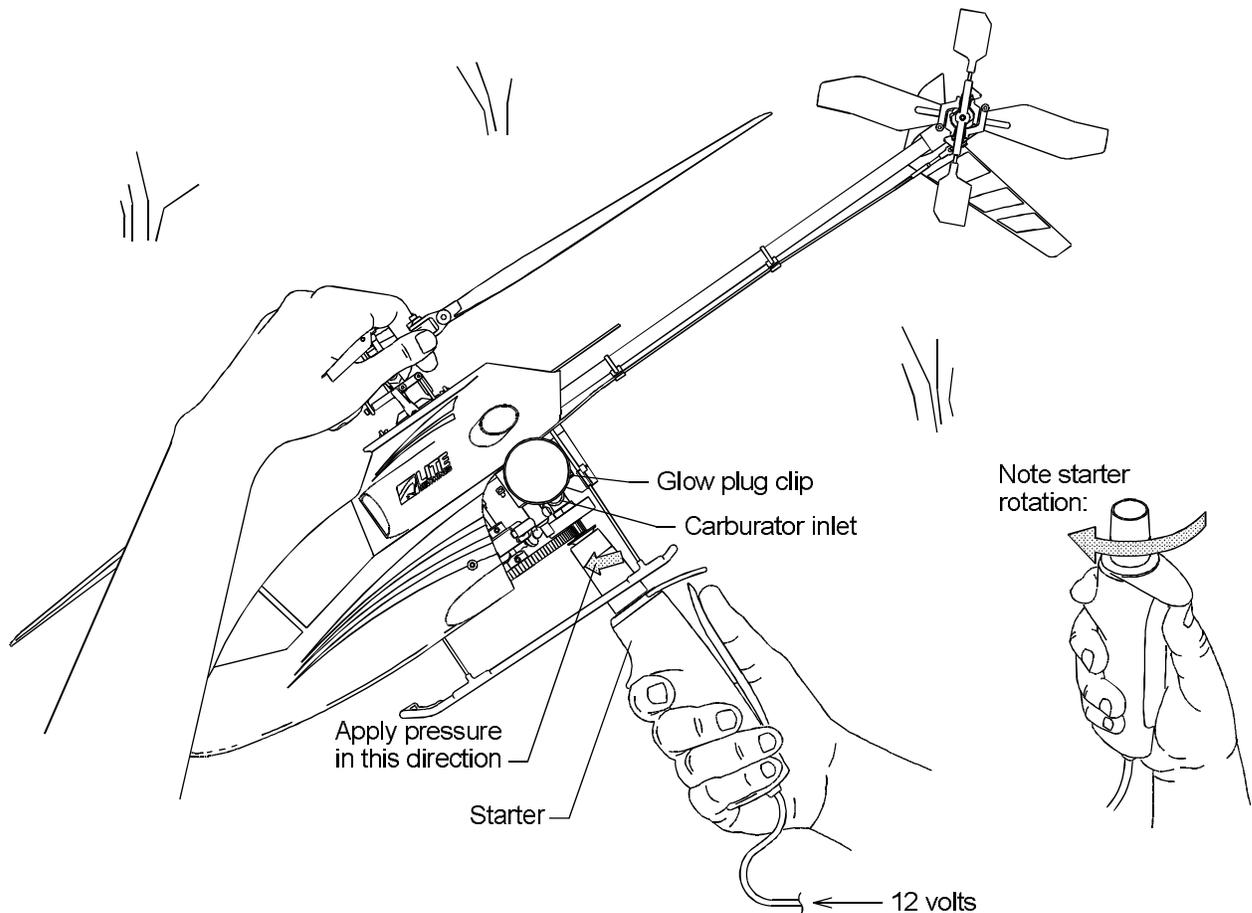
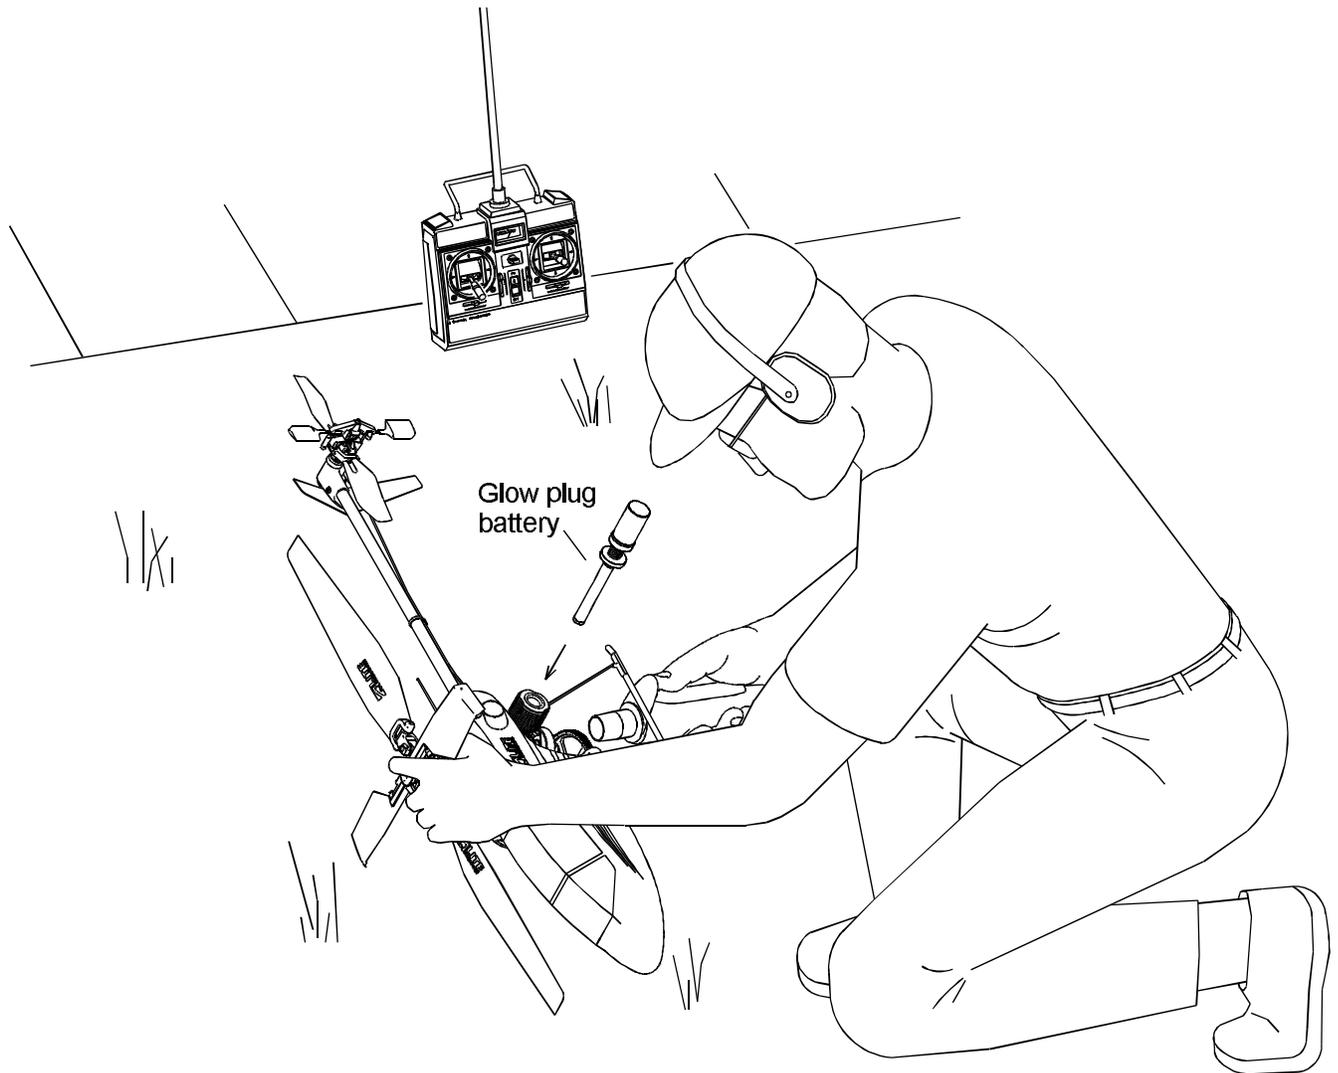

Figure 4-1.
Figure 4-2.
8. Connect your Lite Machines high-speed electric starter to a 12-volt starter battery. The starter should spin in the direction shown in Fig. 4-1. If not, reverse the starter wires on the battery.
10. Connect the glow plug clip to the glow plug on the engine as shown in Fig. 4-1 and Fig. 4-2.
12. Move the transmitter throttle stick (left stick) to about ½ throttle, and the throttle trim lever to full. Hold the rotor head with one hand, and tilt your helicopter on its side with the right skid on the ground as shown in Fig. 4-1 and Fig. 4-2.
13. Spin the engine with the electric starter. Push firmly, but not excessively on the starter cone as shown in Fig. 4-1.